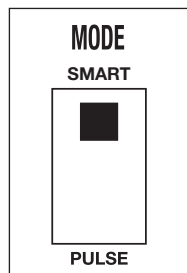

Figure 1: Mode Select
The SmartPlus has a “Mode Select” toggle switch that allows for 2 operation modes. “Pulse” or “Smart” mode can be selected using the toggle switch located on the electronic control board (see Figure 1). A yellow LED indicates which mode is selected. All operation is automatic, no manual timer or temperature setting is required.
7. The SmartPlus is shipped from the factory in “Smart” mode. To switch the pump to “Pulse” mode, remove the 2 electrical box screws and cover. Change the position of the toggle switch on the circuit board to “Pulse” (see Figure 1). Replace the cover and secure with 2 screws.